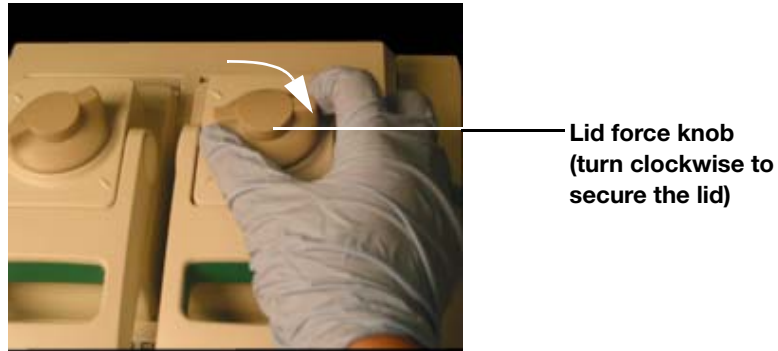

Figure 7. Adjust the lid force by turning the lid force knob.
2. Adjust the lid force by turning the lid force knob (Figure 7).